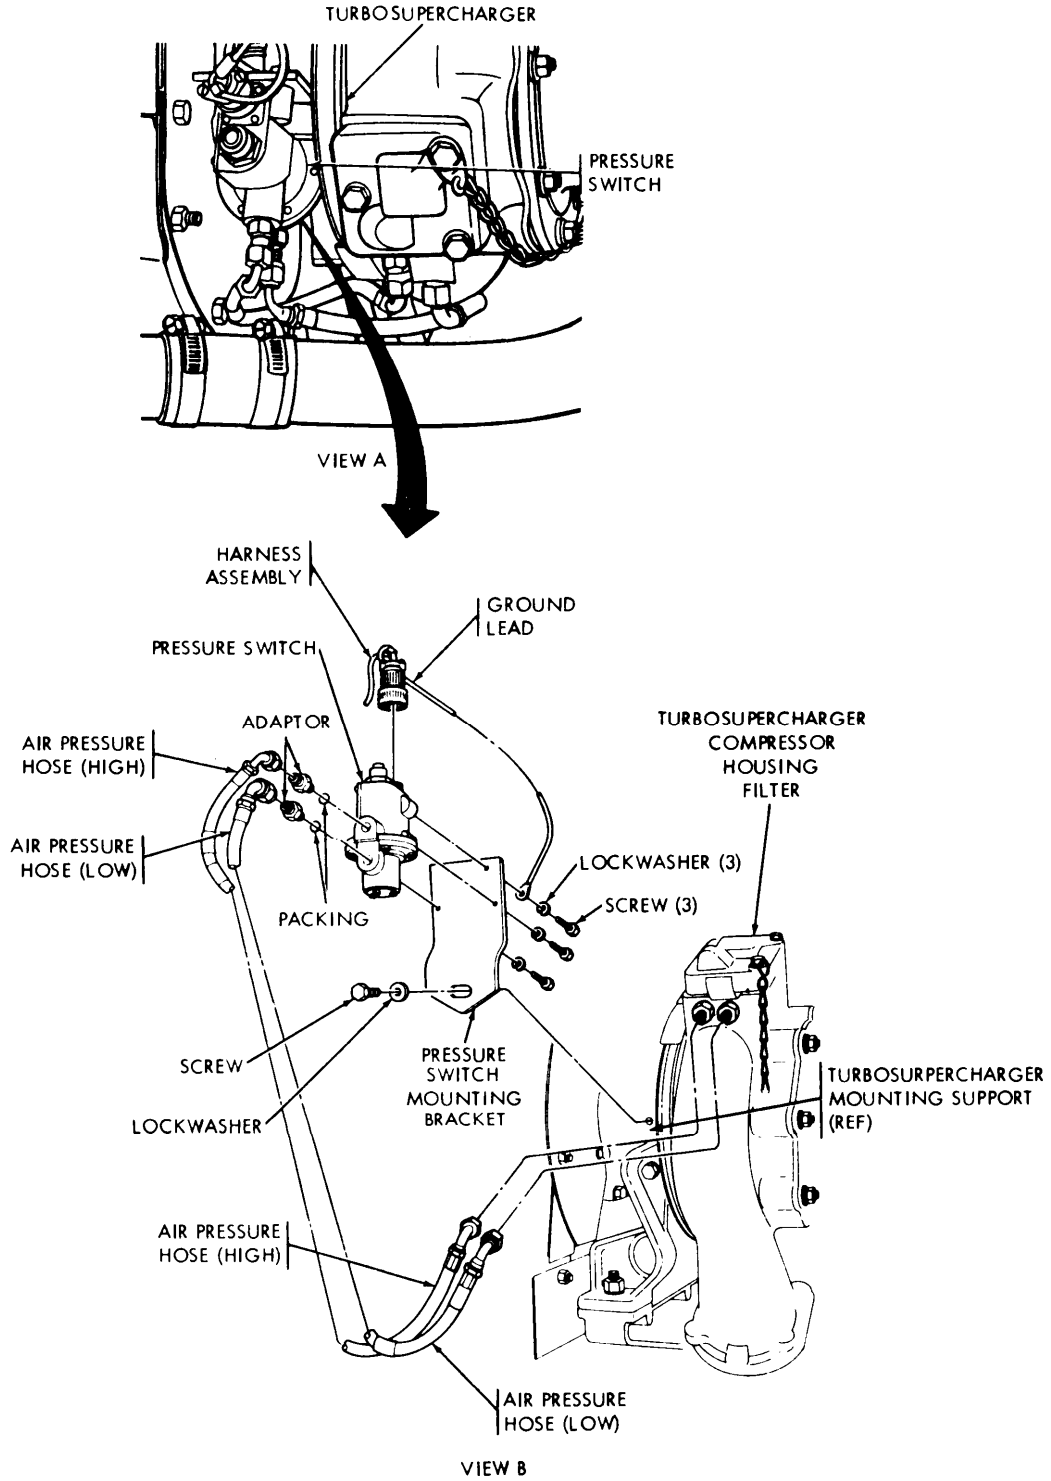

Figure 6-19. Pressure switch and hoses replacement.
b. *Pressure Switch and Air Hoses Replacement (Fig. 6-19).*